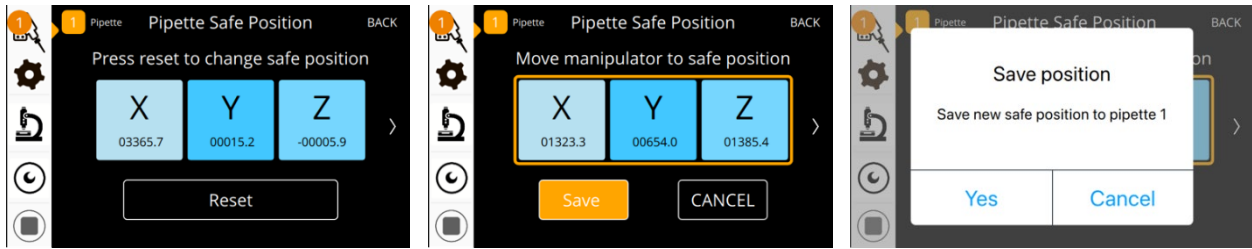

Figure 13. Pipette Safe Position.
7. Set the *Pipette Safe Position* by first pressing *Reset* button (Figure 13). Move the pipette tip to the *Safe Position* and press *Save* button. Confirm with pop-up dialog.